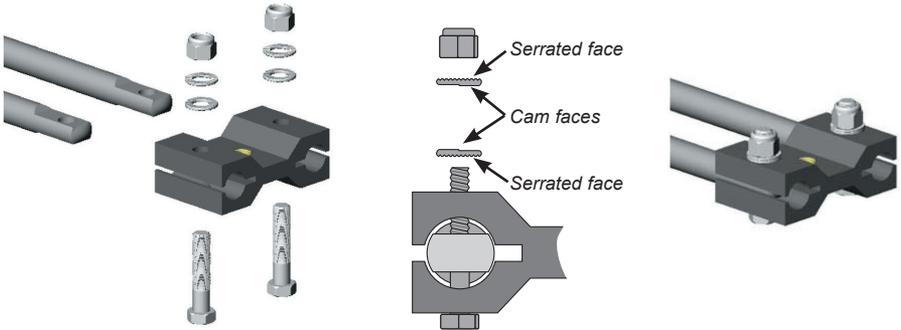

Fig B10 - Fitting dual block & correct washer orientation
- iii) Align the crossholes and bolt through. The anti-vibration washers and nuts supplied must be fitted in the correct order with the serrated face of the washer in contact with the the nut face and the dual block face. The cam face of the washers must be in contact with each other (Fig B10).